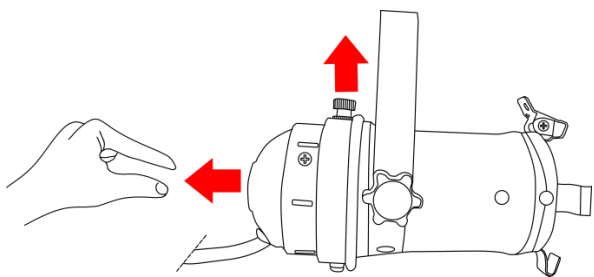
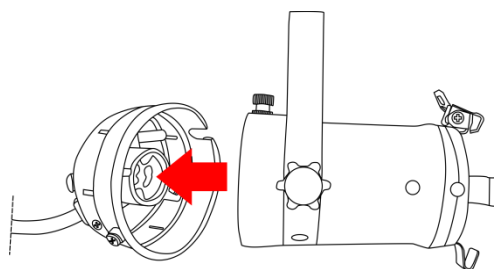

Fig. 03
Fig. 04
- 02) Pull the spring lever in the direction of the arrow and remove the rear cover of the lamp (Fig.03 and Fig.04).